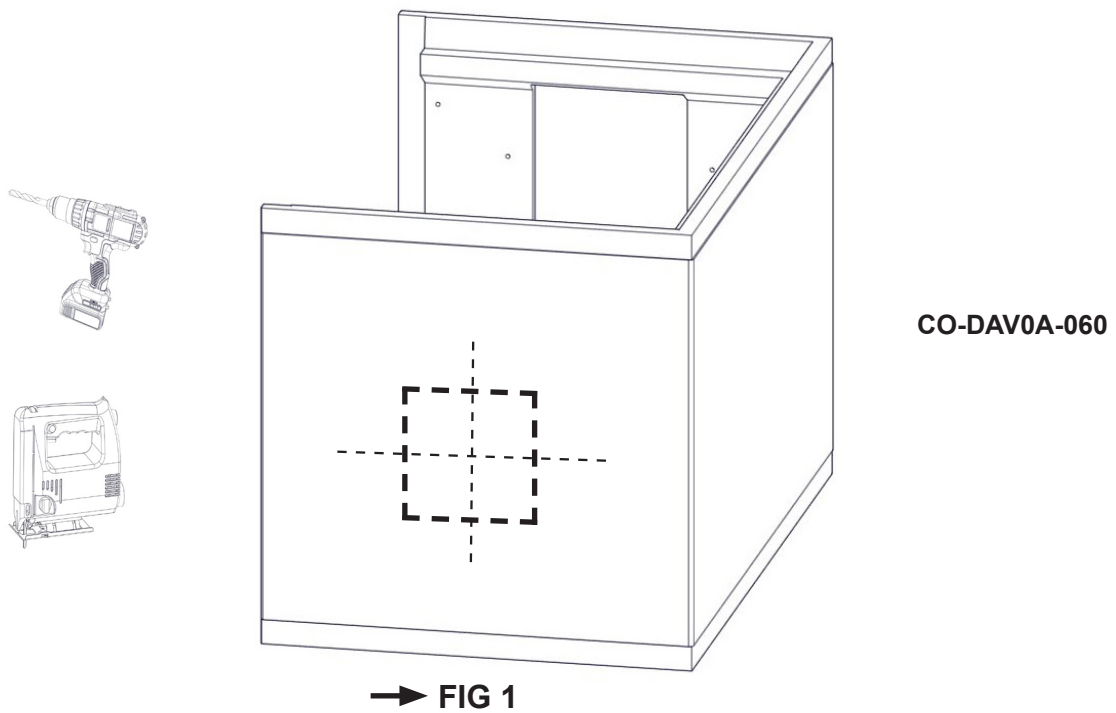

**FIG 19** Davos A High\_N-29A
**FIG 19 a** Davos A High\_N-29A
**FIG 19 b** Davos A High\_N-29A